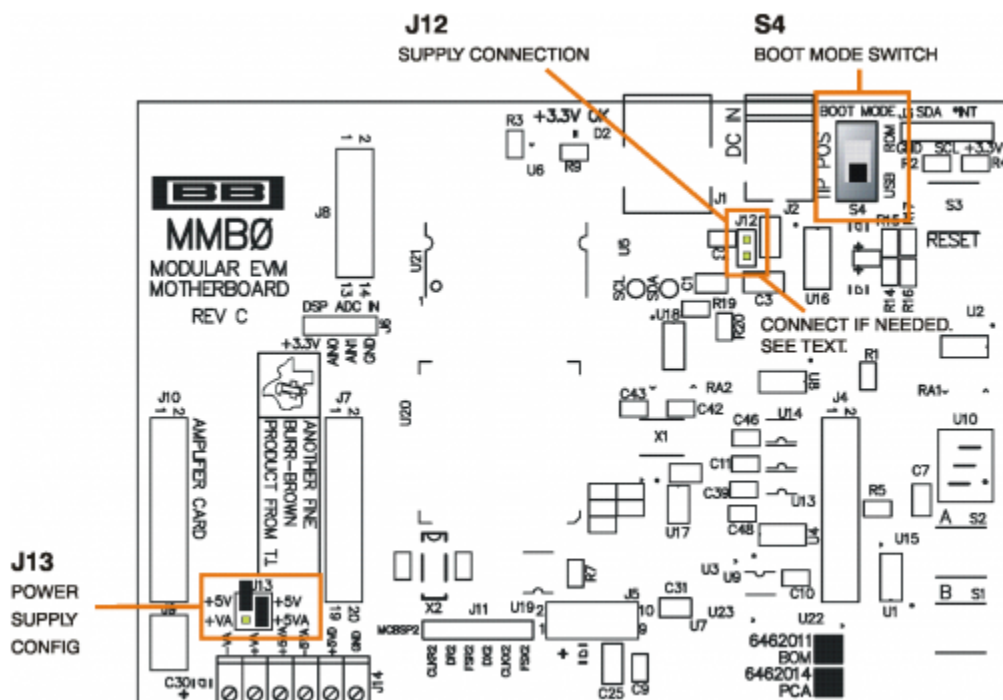

Figure 2. MMB0 Initial Setup
- Step 2. Set the jumpers and switches on the MMB0 as shown in Figure 2.